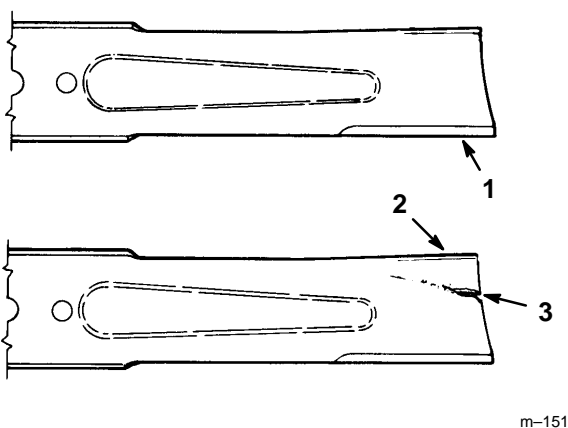

Figure 16
1. Inspect the cutting edges (Fig 16). If the edges are not sharp or have nicks, remove and sharpen the blades. Refer to Sharpening the Blades on page 34.
2. Inspect the blades, especially the curved area (Fig. 16). If you notice any damage, wear, or a slot forming in this area (item 3 in Fig. 16), immediately install a new blade.